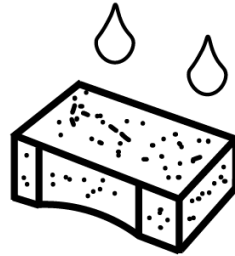

Figure 22
- Oil the filter carefully, Fig. 22. Use engine oil.